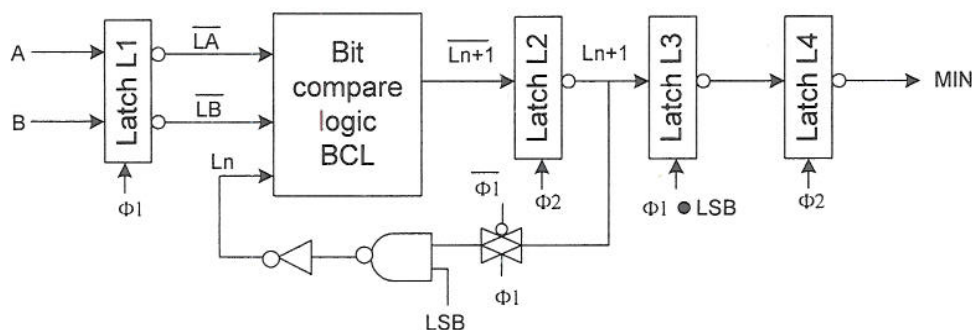

Figure 4.1
4. Figure 4.1 shows a bit-serial comparator circuit that compares two m-bit unsigned numbers A and B supplied to the circuit bit-serially with the least significant bit first. The output is high only if $A > B$, and is low otherwise. The LSB signal is high when the least significant bit is supplied. The circuit is driven by non-overlapping two phase clock signals $\Phi 1$ and $\Phi 2$.